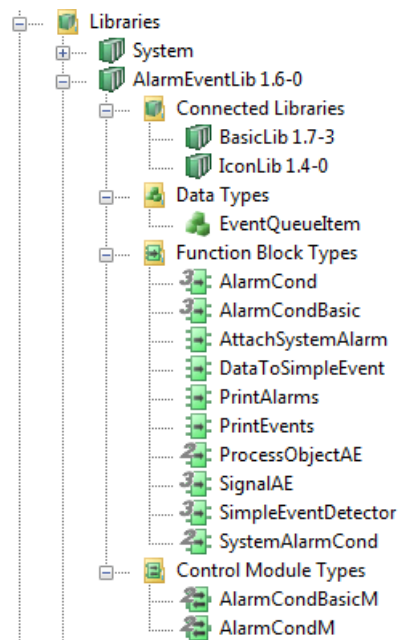

Figure 3. Contents of a library in the Libraries folder
A library in the Libraries folder in Project Explorer may contain the following (see Figure 3):
- Project constants (not shown in Figure 3).